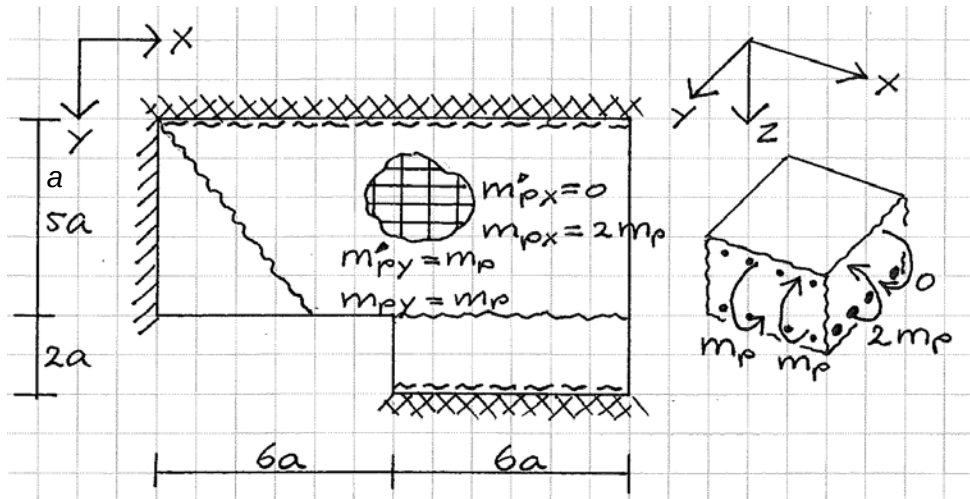

Figure 3. Plate dimensions, reinforcement and yield line pattern
A reinforced concrete plate has fixed and simply supported edges (Fig. 3). It carries an evenly distributed load q . The plate is homogeneous and orthotropic.
- b Consider the yield line pattern of Figure 3. Determine an upper bound for q expressed in m_p and a (1.5 point).